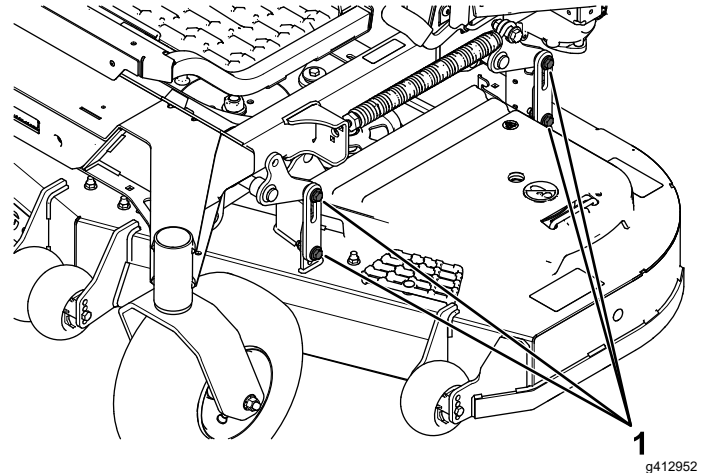

Figure 106
16. Loosen the bolts (Figure 106) on all 4 corners and ensure that the mower deck is sitting securely on all 4 blocks.